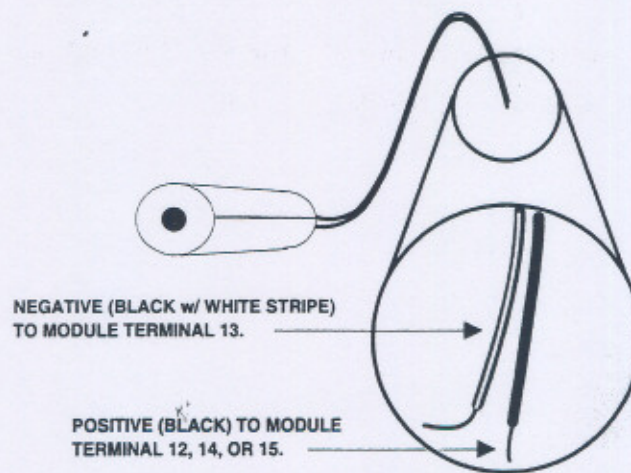

Figure 2.12 Drill-Mount Microphone Wiring Polarity and Termination
4. Connect the microphone to the shielded wire, then connect the shielded wire to the Interrogator Module terminals, observing polarity (see Figure 2.12).